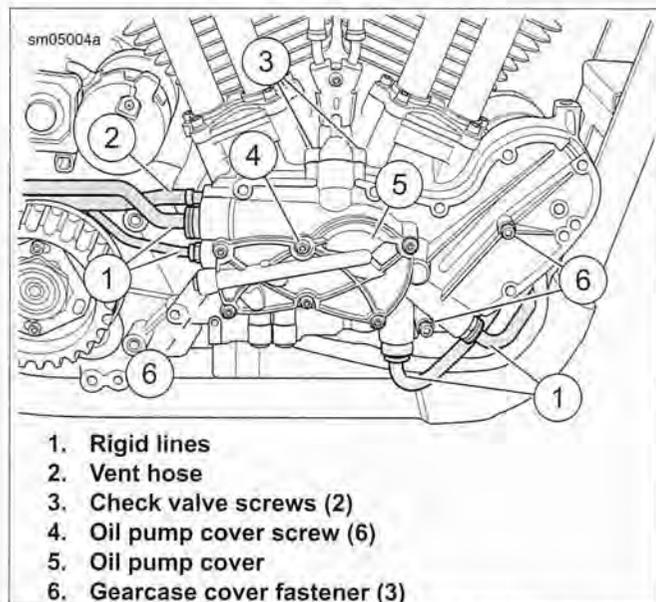

Figure 3-165. Gearcase Cover and Oil Pump: XR 1200X
- See Figure 3-165. Install gearcase cover with **new** gasket and secure with three fasteners (6). Tighten fasteners to 90-120 **in-lbs** (10.2-13.6 Nm).